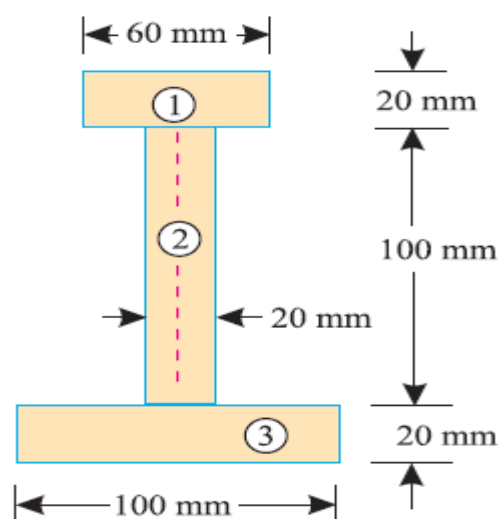

Fig.21
5. An I-section is made up of three rectangles as shown in Fig. 21. Find the moment of inertia of the section about the horizontal axis passing through the centre of gravity of the section. [L1] [6M]